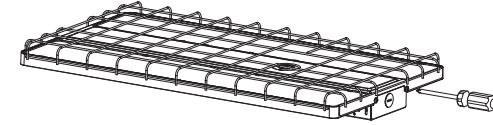

Figure 7
Step1. Place the wire guard on the lamp and fix it with screws (Figure 7).